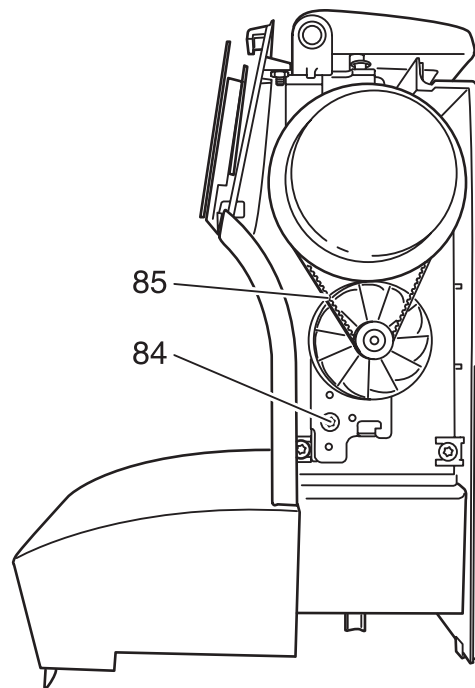

Fig. 68
- Loosen motor-mounting fastening screw 84 (fig. 68).
- Tighten the motor's flat-toothed belt 85 in accordance with section 31, tightening fastening screw 84 very securely at the same time (fig. 68).